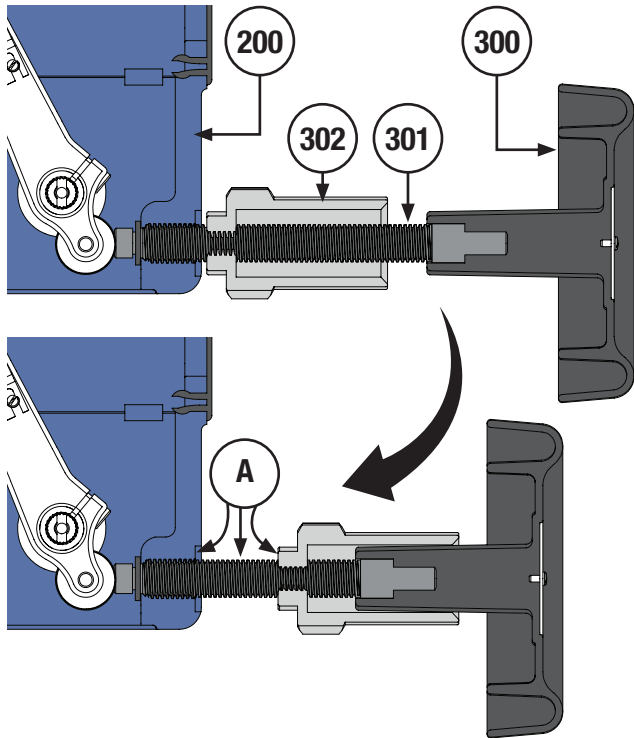

Figure 6 Handwheel Lubrication Diagram
- Turn the handwheel lock (Key 302) counter clockwise until the handwheel stem (Key 301) is accessible/exposed. Lubricate the threads of the handwheel stem and the faces of the yoke/handwheel lock that touch with Permatex® Nickel Anti-Seize (Key A). Refer to Figure 6. **NOTE:** For instructions on handwheel removal, refer to DISASSEMBLY, Handwheel Removal (Page 14).